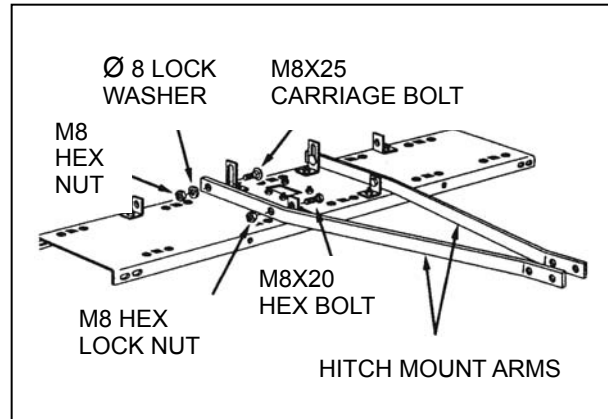

FIGURE 3
5. Fasten the hitch mount arms to the outside of the angle brackets at the front of the tine shield. Use two M8x20 hex bolts and M8 hex lock nuts. Tighten and then loosen the nuts slightly. See figure 3.
6. Fasten the hitch mount arms to the outside of the hitch arm mount brackets at the rear of the tine shield. Use two M8x25 carriage bolts, Ø8 lock washers and M8 hex nuts. Do not tighten yet. See figure 3.